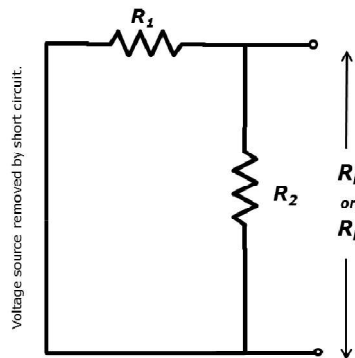

Fig3: For Norton resistance R_N or R_i
6. Short the supply (considering it an ideal voltage source) and record the resistance across A and B using multimeter as shown in Fig.3